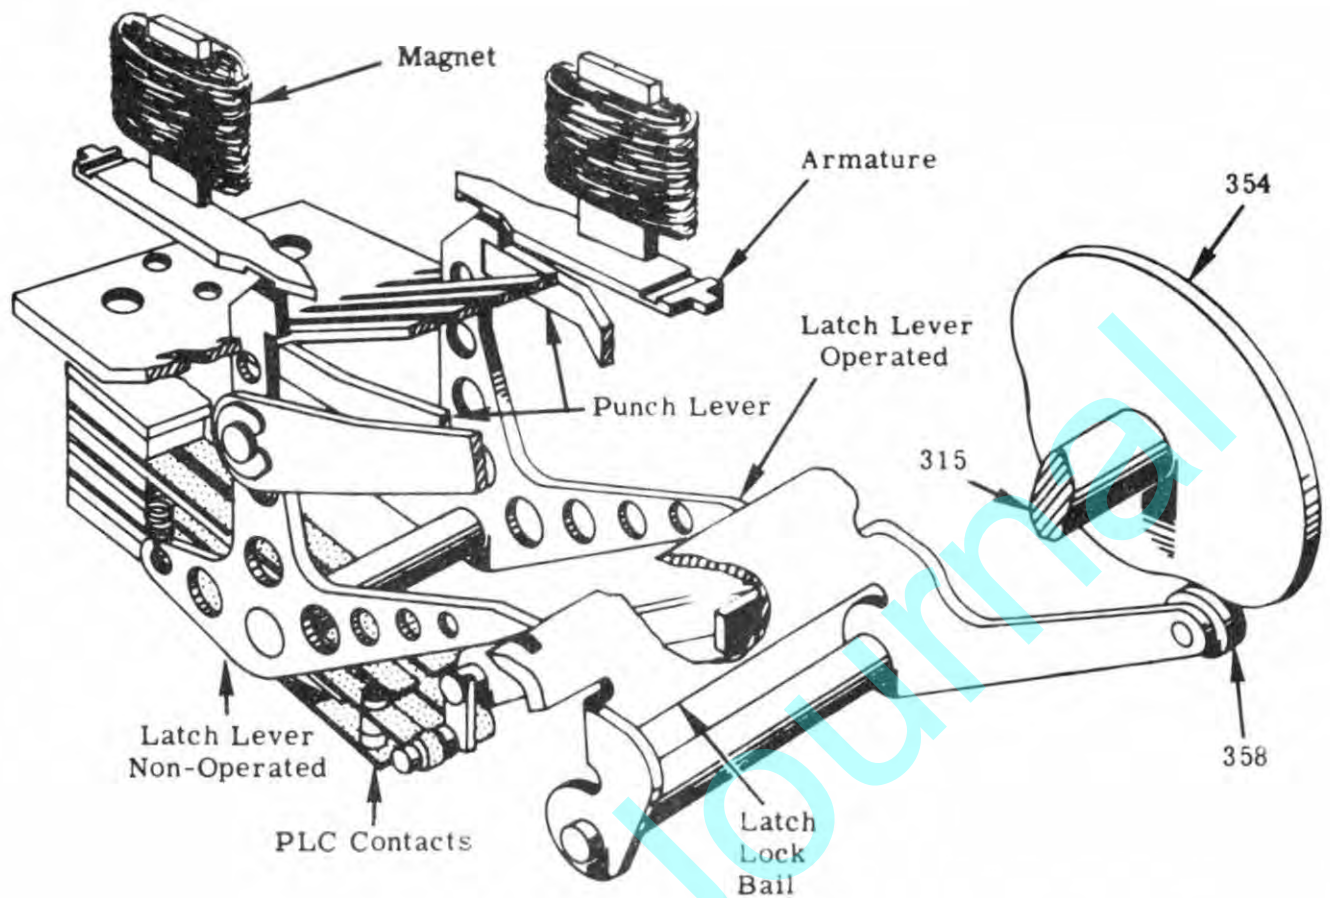

Figure 28- Latch Lock Bail
The roller (358) of the latch lock bail (357) reaches the low side of cam 354 (approx. 60 degrees). This will move the latch lock bail so that it will lock the latch levers in their latched or unlatched position. (See Figure 28). Also, the movement of the latch lock bail will operate the punch lock contacts (PLC).